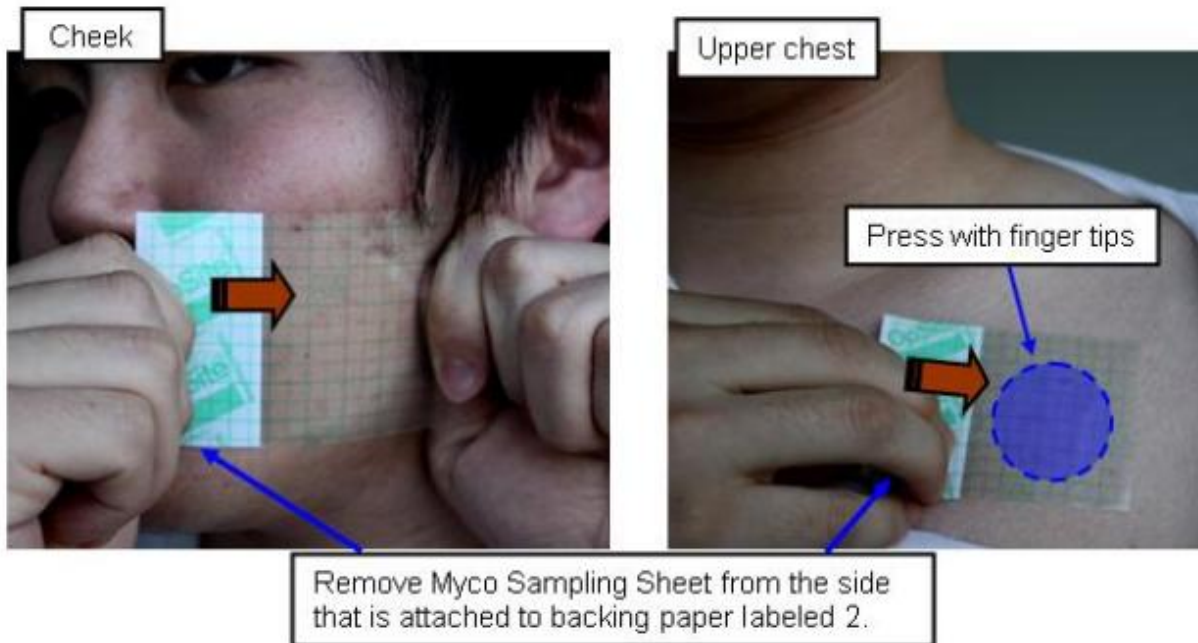
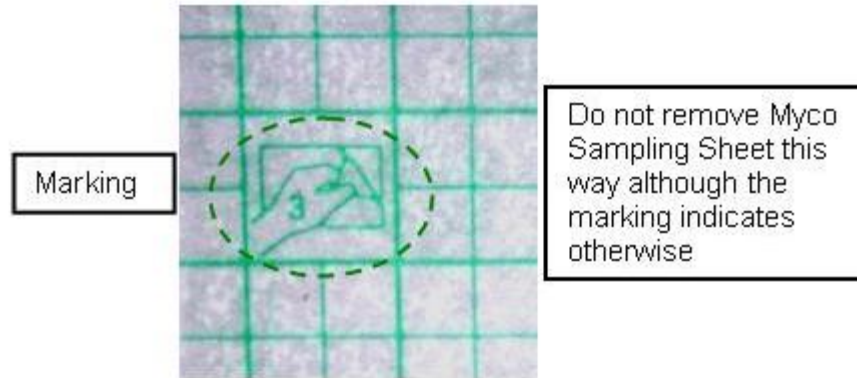

Figure 5. Applying and removing Myco Sampling Sheet.
Figure 6. The marking on Myco Sampling Sheet.
Refer to Figure 5.
Removing Myco Sampling Sheet in the direction the marking indicates will separate the upper layer with the grid from the adhesive layer. Refer to Figure 6.
- 2.5 Hold Myco Sampling Sheet's edge that is attached to the backing paper labeled 2 and remove Myco Sampling Sheet from the skin as shown in Figure 5. (Do not remove it in the direction depicted on the backing, shown in Figure 6)
- 2.6 Apply and remove Myco Sampling Sheet two more times on the same place. Refer to Figure 5.